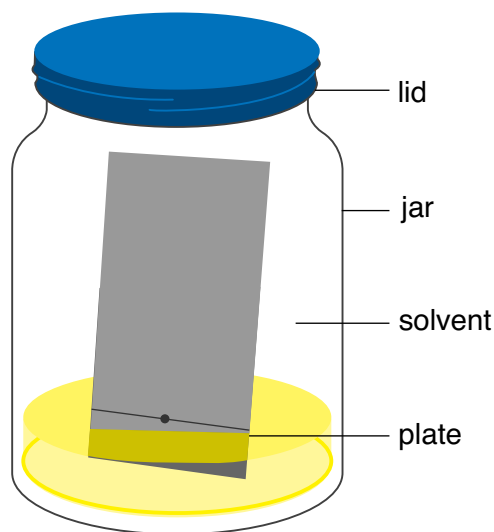

Figure 3
7. Place each TLC plate into a container of solvent with the pencil line side down (see Figure 3). The solvent should not reach the pencil line. Tighten the lid on each jar.